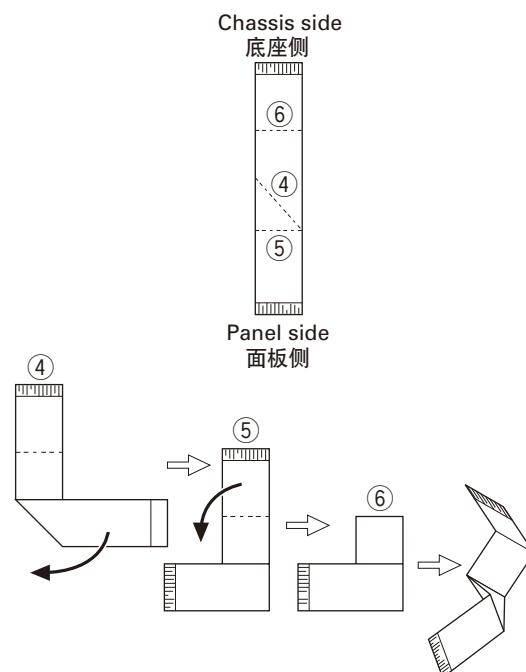

Fig. 3-2 / 图 3-2
1. Lift the two tabs of the panel on the bottom of the transceiver with a flat-head screwdriver (①) and remove the panel from the chassis (②).
2. Remove the flat cable from the connector (CN901) of the display unit of the panel. (③)
3. Fold the black line of the flat cable (in three parts) as shown in Figure 3-2. (④, ⑤, ⑥)
2. 从面板显示单元的连接器 (CN901) 取下带状电缆。 (③)
3. 如图 3-2 所示折叠带状电缆的黑线。 (④, ⑤, ⑥)